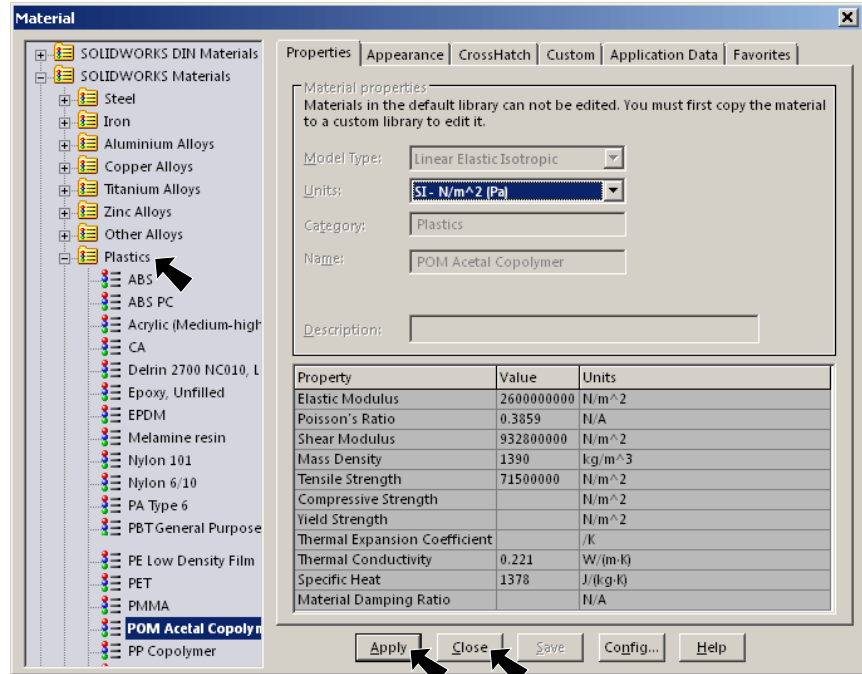

Fig. 22
Step 2. Expand Plastics in the material tree and select POM Acetal Copolymer, Fig. 22. Click Apply and Close.